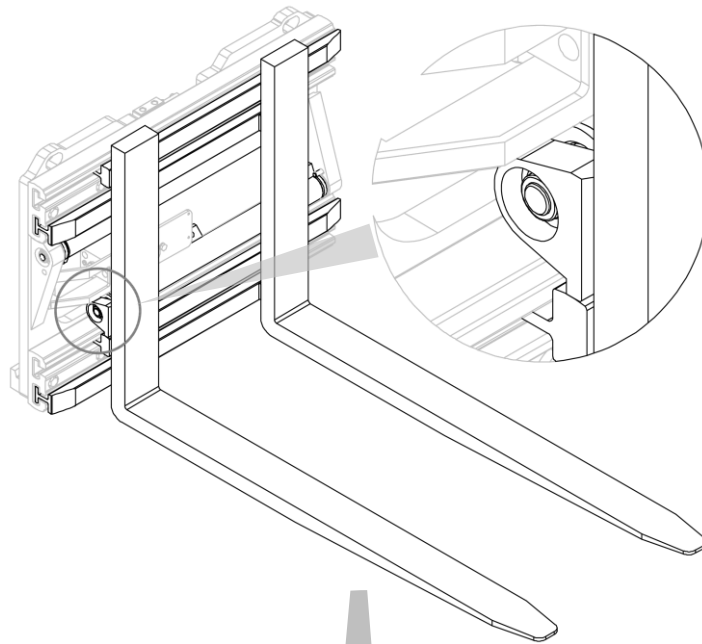
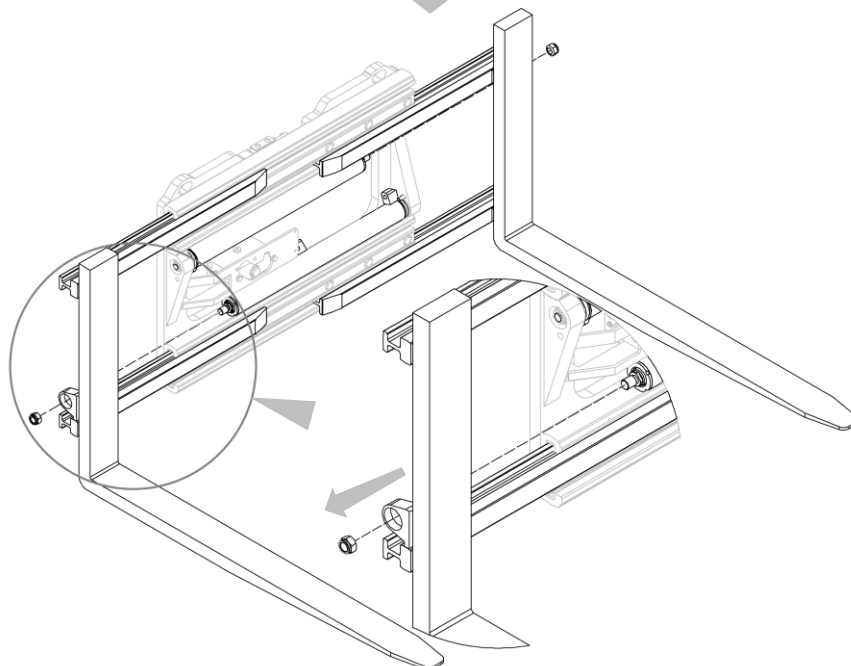

Figure 22
Figure 23
2. Remove the fork assembly with the forks after unscrewing the nuts securing them to the cylinders (see *Figure 22* e *Figure 23*).